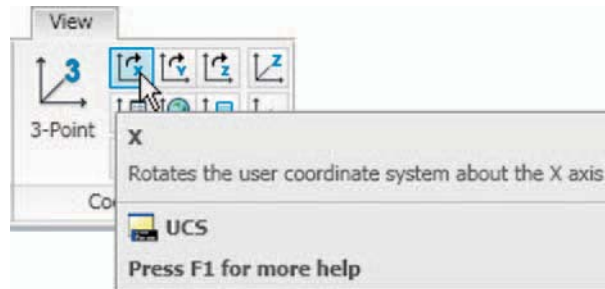

Fig. 17.16 The **UCS X** tool in the **View/Coordinates** panel
3. Click the **X** tool icon in the **View/Coordinates** panel (Fig. 17.16):